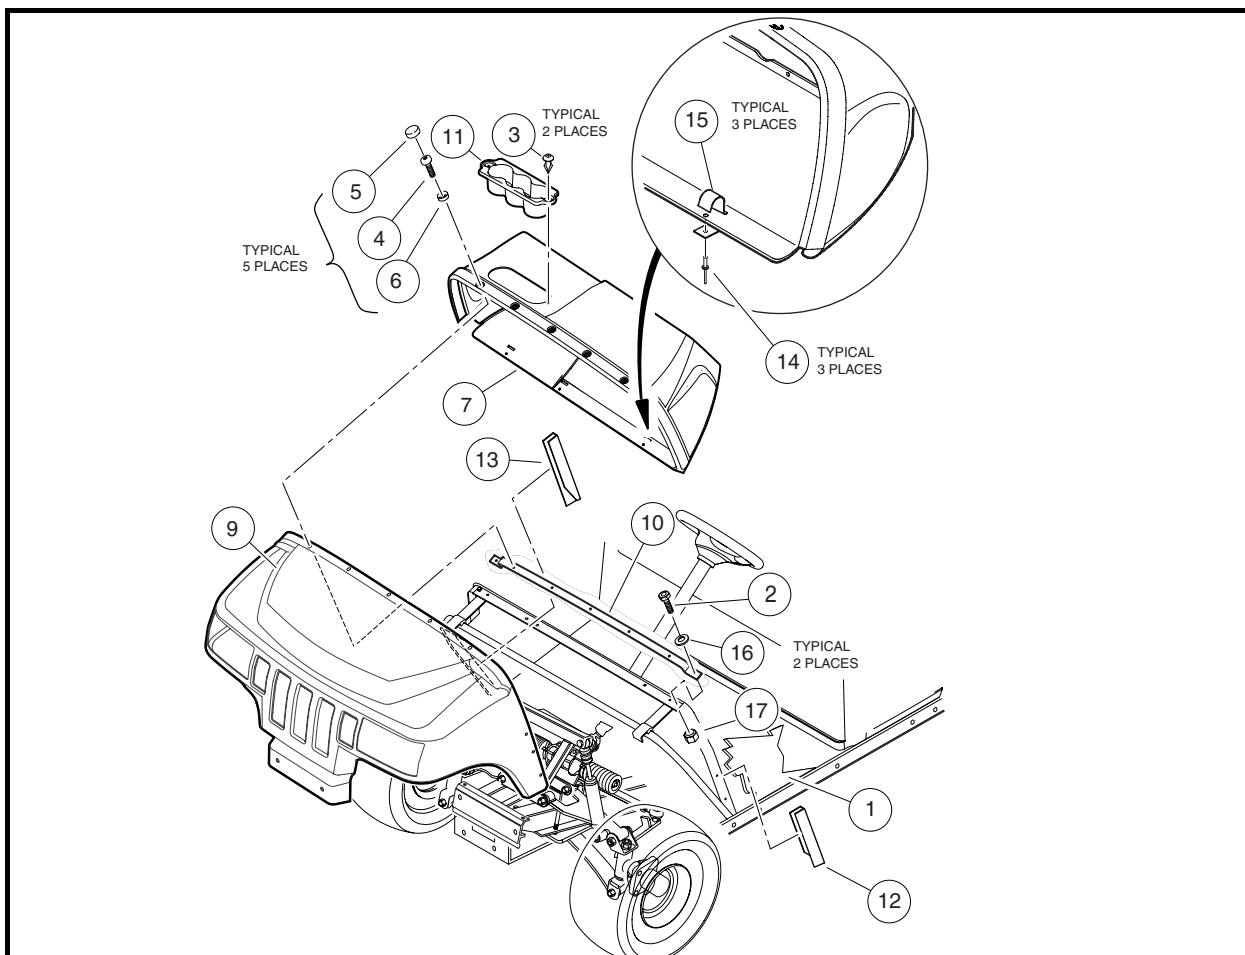

Figure 4-3 Front Body Assembly
2. Remove caps (5) from body and dash screws (**Figure 4-3, Page 4-5**).
3. Remove screws (4) and plastic scalloped washers (6) from body and body support and slide body away from dash.
5. Pull front body (9) from body covers (12) and (13).
2. Install body (9) under body covers (12) and (13), and align holes with dash and body support (**Figure 4-3, Page 4-5**).
4. Attach plastic caps (5) onto dash screws.